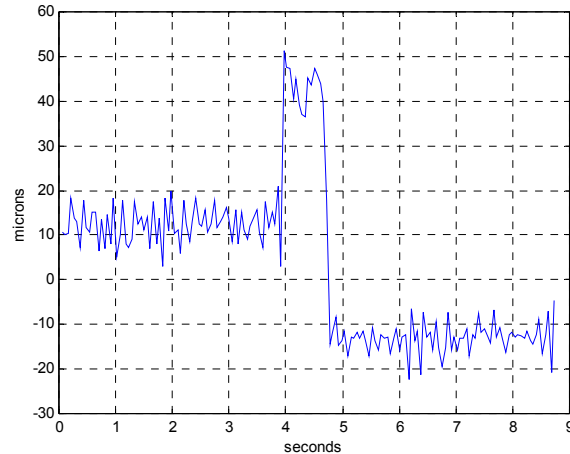

Figure 12, Axes Optimally Tuned Screen
- Refer to **Figure 12**. Axes optimally tuned reported a retract lag of 51 microns.